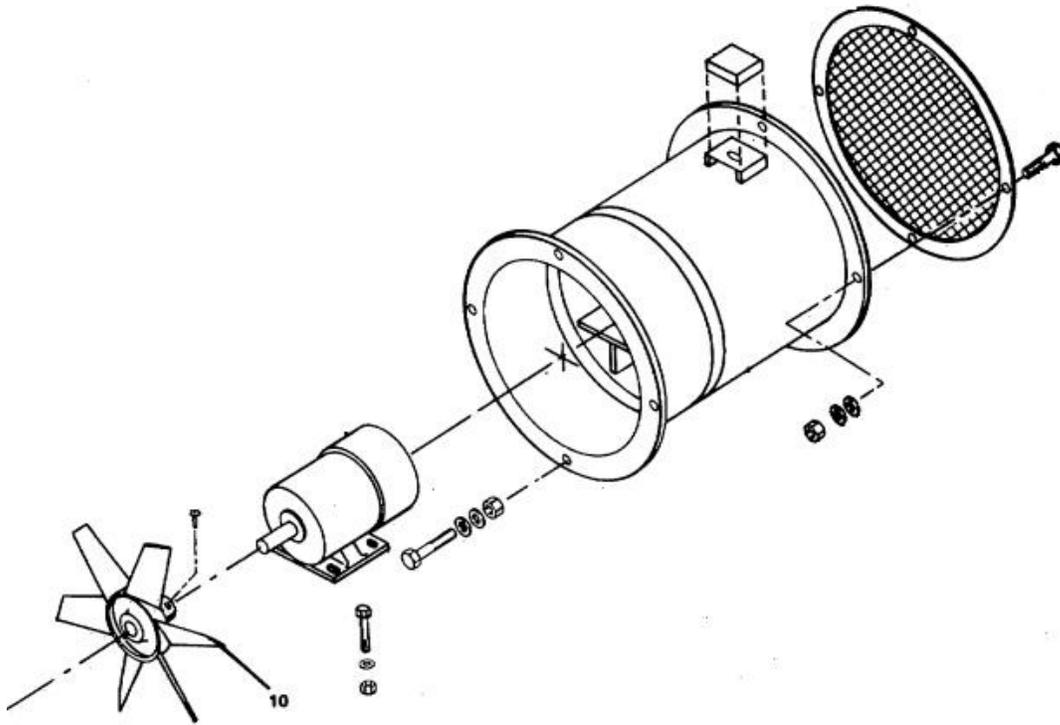

Figure 551-88L-2064_03
(2) Lubricate fan wheel bearings, (refer to Figure 551-88L-2063_04).